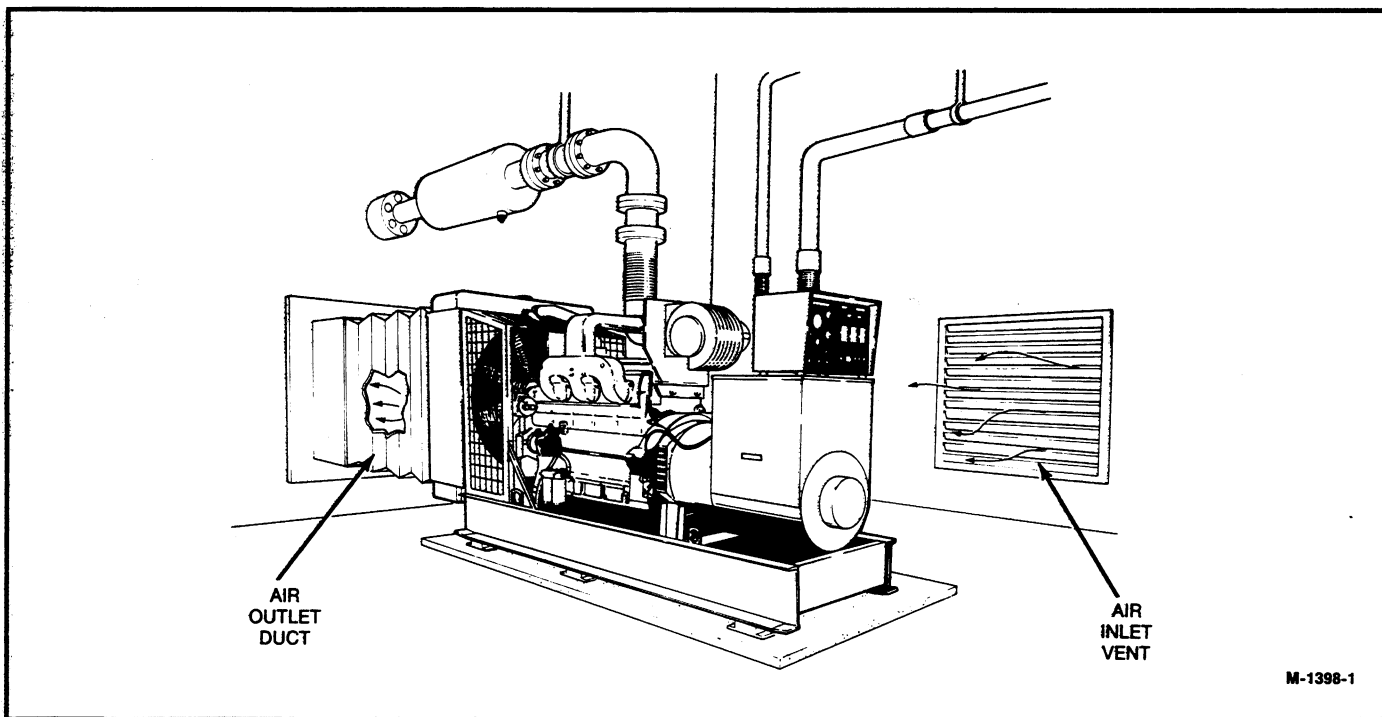

FIGURE 5-6. VENTILATION SYSTEM
**Vents and Ducts:** For indoor installations (see Figure 5-6), locate vents so incoming air passes through the immediate area of the installation before exhausting. Install the air outlet higher than the air inlet to allow for convection air movement.
**Radiator Cooling (Standard):** The standard radiator cooling system uses a set mounted radiator with an engine driven pusher type fan to cool the generator set (see Figure 5-6). Air is pulled from the generator end of the set across the engine and then forced through the radiator. An air duct adapter flange surrounds the radiator grill to allow mounting of the air discharge duct.